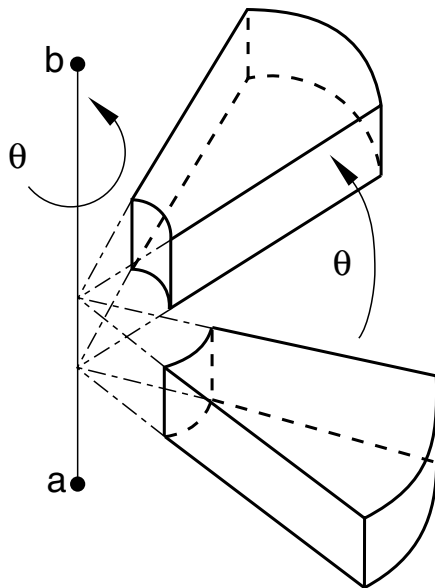

Figure 1: Rotation of an instance.
1. X -coordinate of point a on the axis of rotation (see Figure 1).